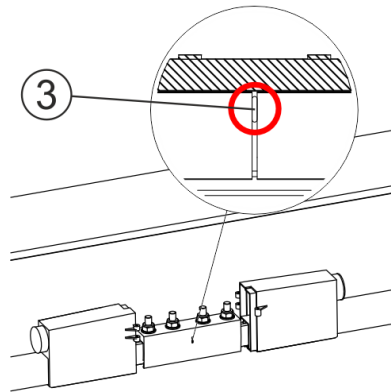
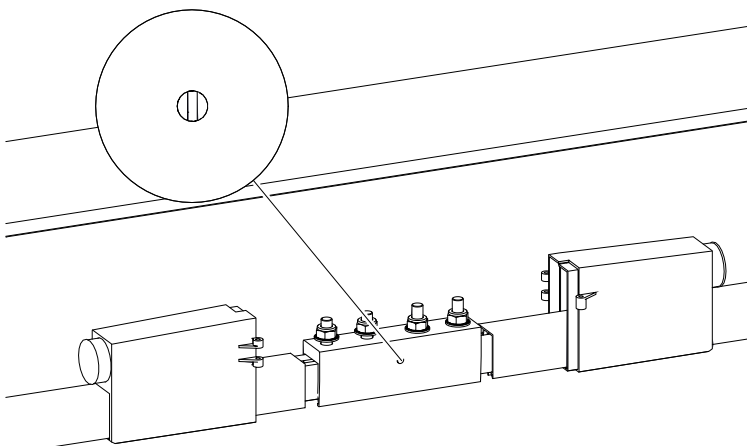
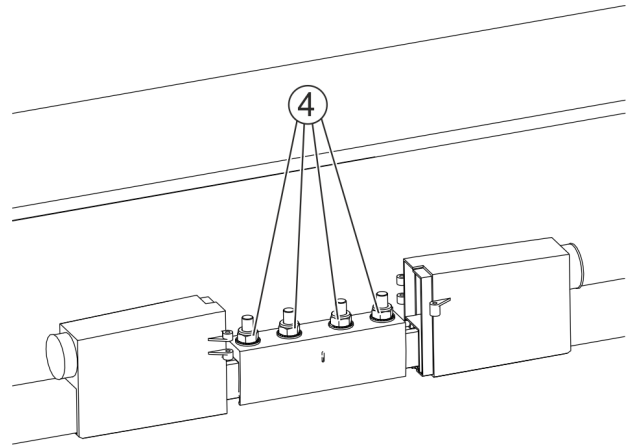

Fig. 72: Connector with stopper (Pos. 3) (aluminum-stainless steel or CopperECO conductor rail) - slid into both conductor bar ends
Fig. 73: Connector with inspection window (copper conductor rails)
Fig. 75: Tighten M10 nuts
In the case of aluminum-stainless steel conductor rails as well as CopperECO, there is a stopper that ensures the functionally necessary gap of 2 to 3 mm between the rail ends. In the case of copper conductor rails, there is an inspection window instead (see Fig. 73) to check whether the gap is being maintained!
- Mount the connector (Pos. 4) with tubular cable lug (Pos. 5) as described in Section 6.4.3.3 (see Fig. 75). Tighten the screw connection with the specified torque (SW 17, torque wrench: **31 Nm**). In the case of copper rails, check via the inspection window whether the ends of the conductor rails are 2 to 3 mm apart (see Fig. 73). With the other conductor bars, it must be ensured that the ends of the conductor rail are in contact with the stopper in the connection plate (see Fig. 72).